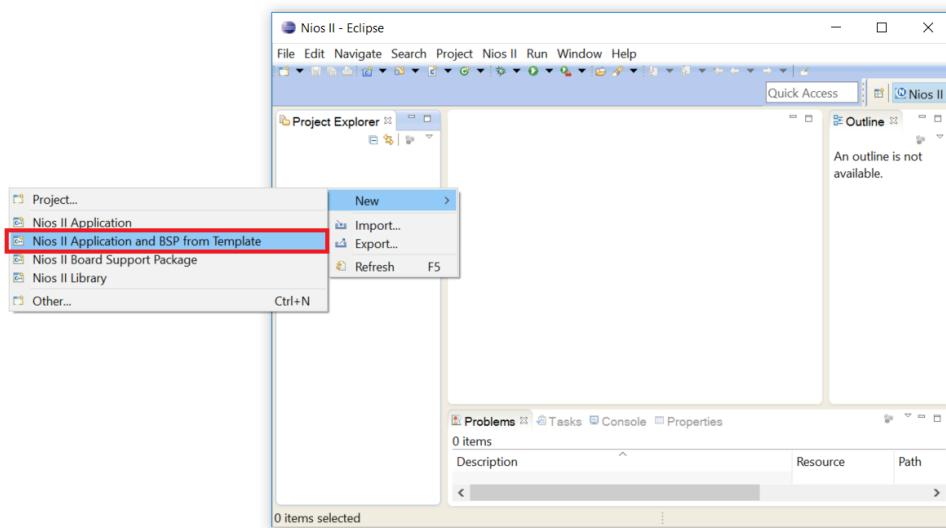

Figure 36: Creating the Initial Project in the Eclipse SBT
- Right click in the area called Project Explorer and select **New → Nios II Application and BSP from Template** as shown in Figure 36 above.